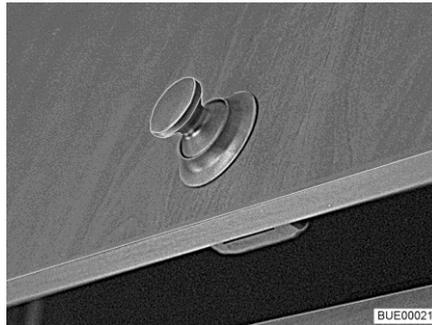
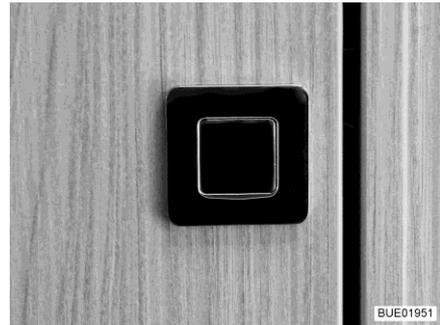

Fig. 64 Furniture flap with push button (round) (round)
Fig. 65 Furniture flap with push button (square)
- Press inner part of the lock. The push button (Fig. 64 or Fig. 65) jumps out.